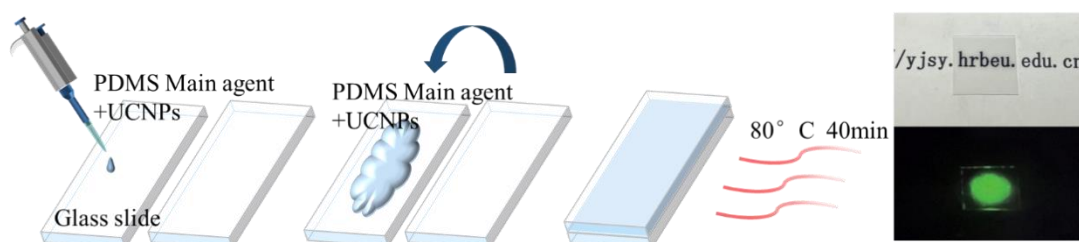

**Figure S2** The element maps for Si, C, F Na, Y, Yb , and Er of UCNPs/PDMS.
2. Figure S2. The element maps of UCNPs/PDMS. ....	S-2